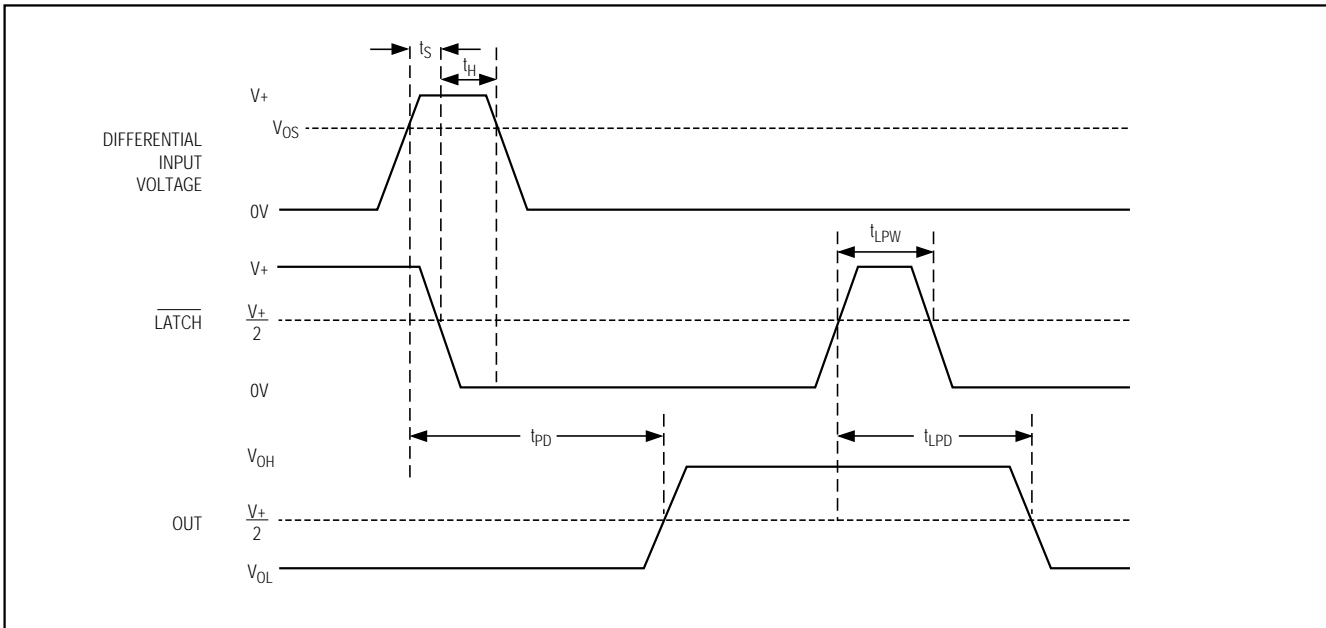

Figure 2. MAX941 Timing Diagram with Latch Operator
- Note 8:** Parameter is guaranteed by design and specified with V_{OD} = 5mV and C_{LOAD} = 15pF in parallel with 400μA of sink or source current. V_{OS} is added to the overdrive voltage for low values of overdrive. See Figure 2.
- Note 12:** Applies to the MAX941 only. Comparator is active with LATCH pin driven high and is latched with LATCH pin driven low. See Figure 2.
The MAX941 includes an internal latch that allows storage of comparison results. The $LATCH$ pin has a high input impedance. If $LATCH$ is high, the latch is transparent (i.e., the comparator operates as though the latch is not present). The comparator's output state is stored when $LATCH$ is pulled low. All timing constraints must be met when using the latch function (Figure 2).